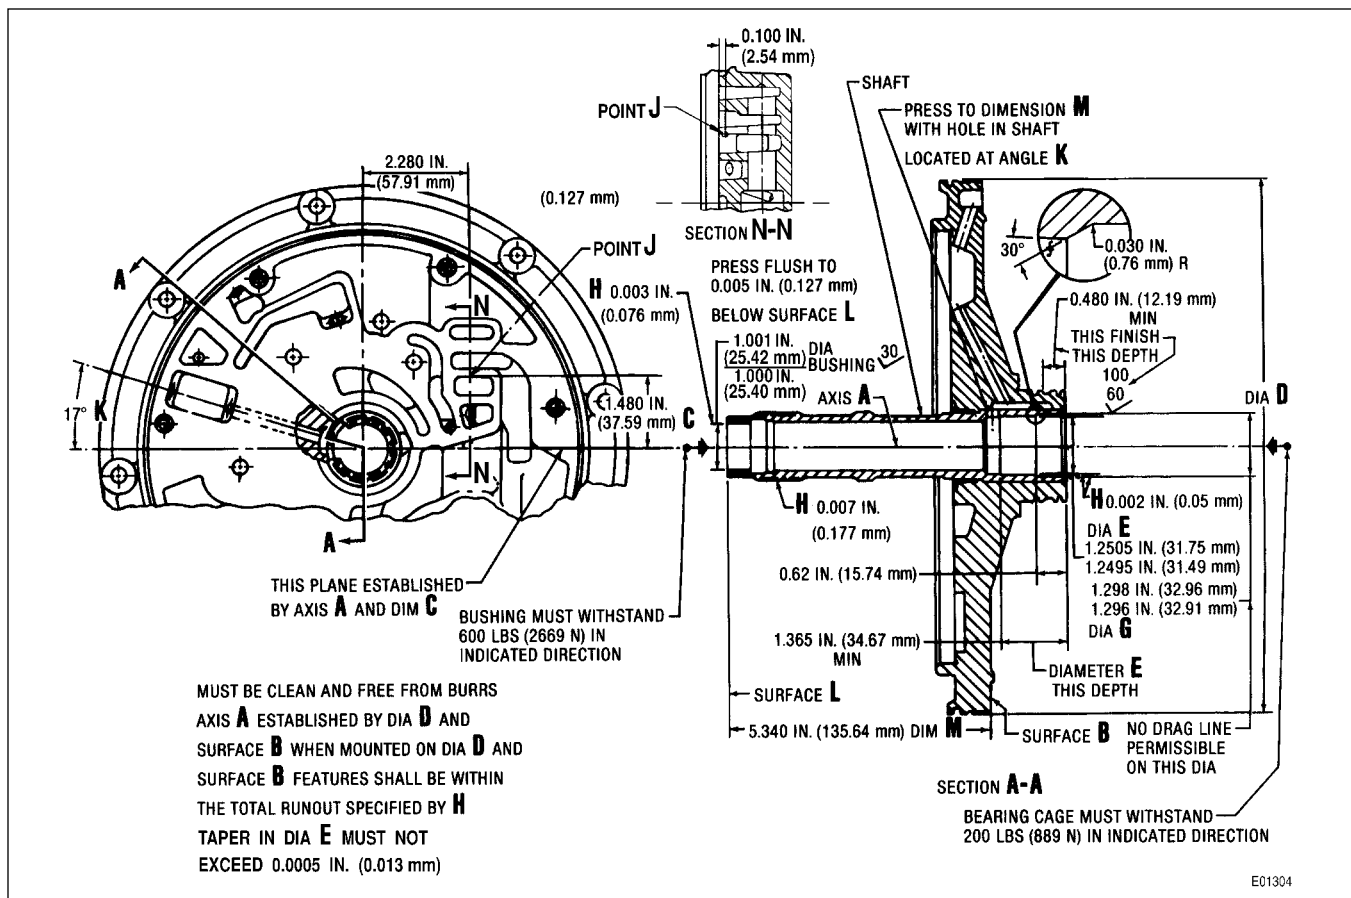

Figure 6–25. Installation of Stator Shaft, Machining of Bushing and Bearing Bores (AT 500 Series)
- (3) Press the stator shaft into the front support to Dimension **M** as measured from Surface **B** to the end of the stator shaft (Surface **L**) (Figure 6–25 or 6–26). Axis **A** is established by Diameter **D** and Surface **B**. When mounted on Diameter **D** and Surface **B**, features shall be within the total runout specified by **H**.
- (4) Observe specifications for machining Diameters **E** and **G**.